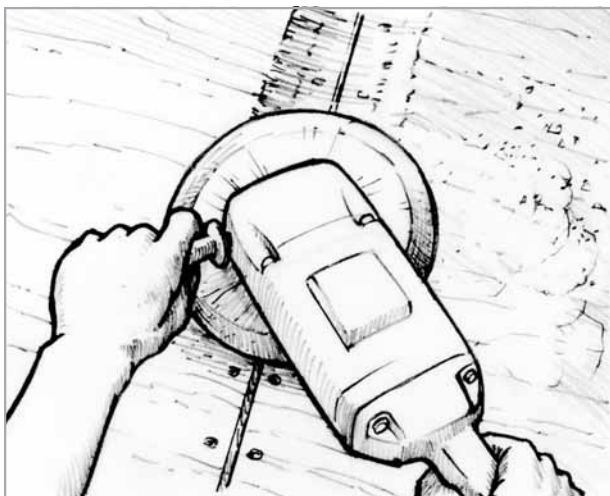

Figure 5-10 Sand a valley along the joint to allow for fiberglass tape.
3. Sand a 4" to 5"-wide valley along the joint with a disc sander to allow the layer(s) of tape to lie below the surface. Make the depression about $\frac{1}{32}$ " deep for each layer fiberglass tape that will fill the joint. Use the sander or a chisel to remove any additional damaged or rotted plywood around the joint. At an edge or chine, use the sander or a router with a round-over bit to round the corner. A $\frac{1}{4}$ " to $\frac{3}{8}$ " radius will allow the glass tape to lie flat on the surface (Figure 5-10).